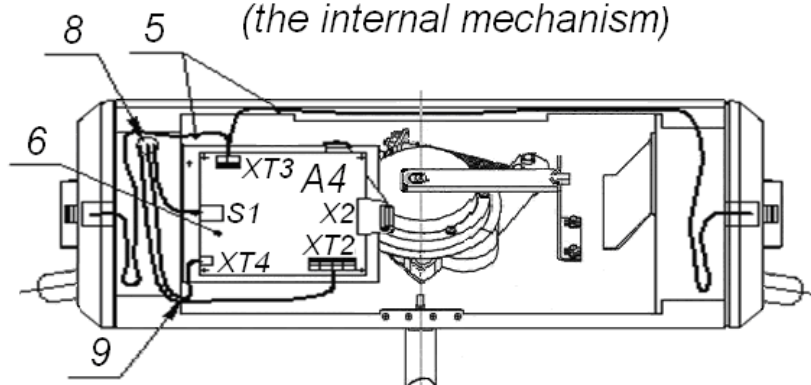

Figure 10. Cable layout inside the housing
9. Open the housing top cover (3) with the key (4).The sequence of top cover opening is described in Section 6.
10. Pull the cables inside the housing. Recommended cable layout inside the post is shown on Figure 10.